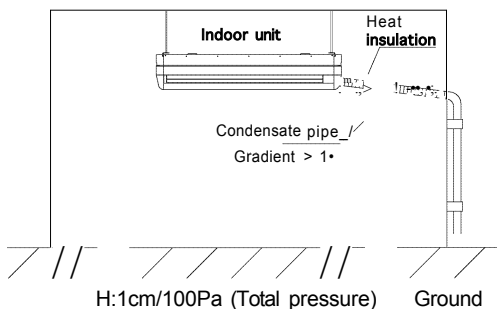

Fig 22
- e. After installing the condensate pipe, it will do leakage test through pouring some water to check whether there is a leakage at joints and drain is smooth. As for the **new** room, do the leakage test before laying the ceiling, please refer to Fig 22.